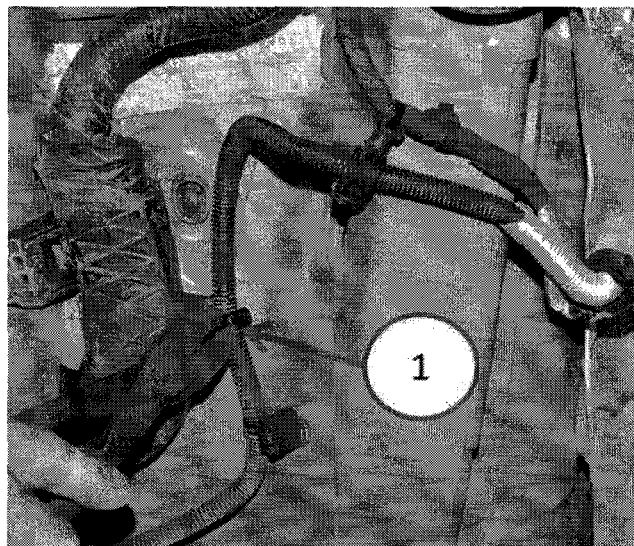

Fig. 2 CUT THIS TIE IF PRESENT
3. IF the vehicle has a tie strap holding DEF supply line to electrical trough, located next to the frame member behind the right front tire area, as shown in (Fig. 2), remove the tie strap, (vehicles built on 12/18/13 or later)